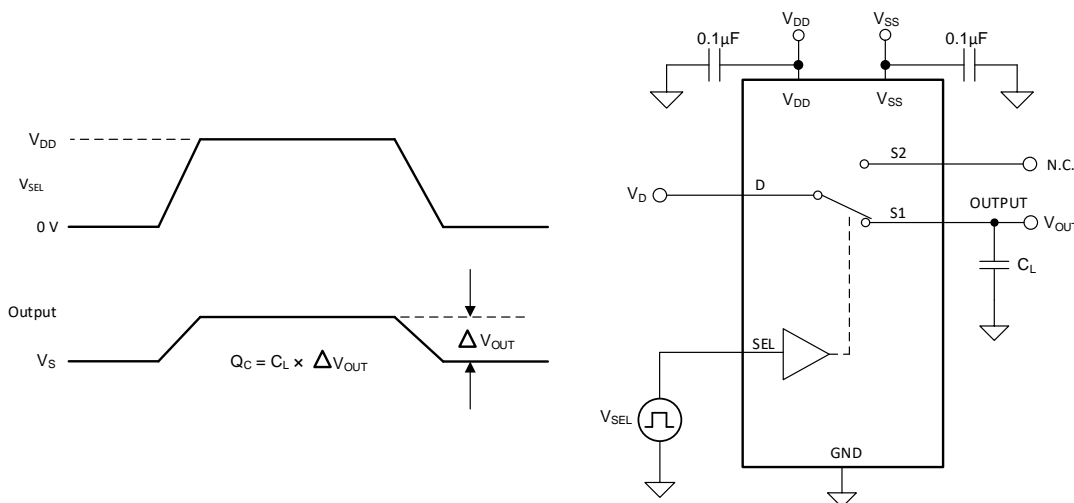

Figure 12. Charge-Injection Measurement Setup
The TMUX1247 has a transmission-gate topology. Any mismatch in capacitance between the NMOS and PMOS transistors results in a charge injected into the source or drain of the device during the falling or rising edge of the gate signal. The amount of charge injected into the source or drain of the device is known as charge injection, and is denoted by the symbol Q_C . Figure 12 shows the setup used to measure charge injection from Drain (D) to Source (Sx).